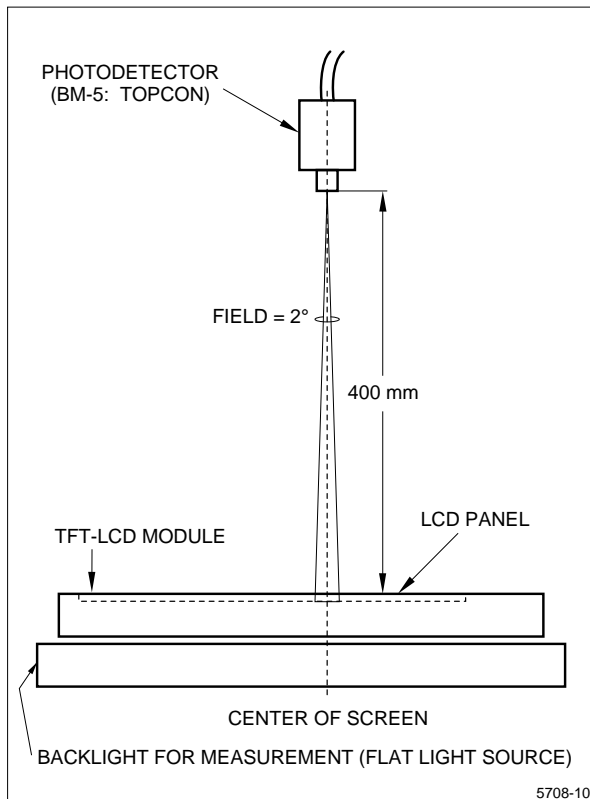

Figure 12. Optical Characteristics Measurement Method
- The measurement shall be executed 15 to 20 minutes after the module has been lit at the proper rating. The optical characteristics shall be measured in a dark room or equivalent state with the method shown in Figure 12.